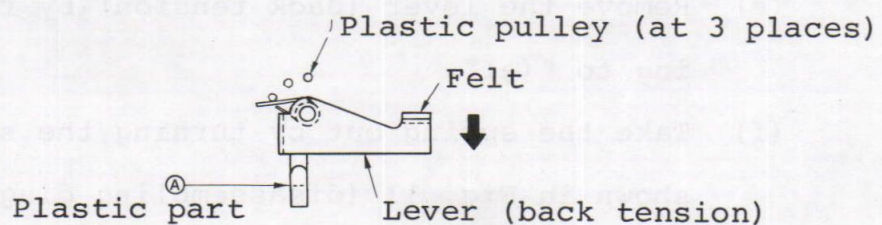

Fig. 9
The lever (back tension) can be taken out if the felt part shown in Fig. 9 is turned in the direction shown by the arrow and is lifted up from the shaped part of (A).
the position of mounting the spring (back tension) is as shown in Fig. 9.
3. Refer to Fig. 9 for setting the spring position of the back-tension lever.